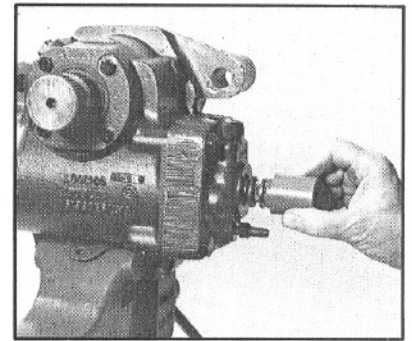
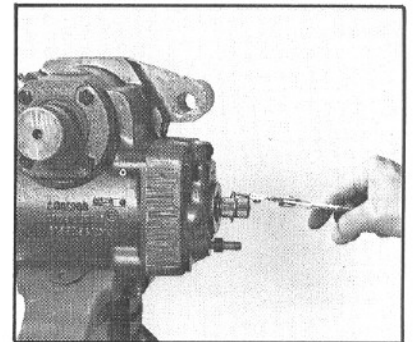

Figure 146
Figure 147
44. Apply clean grease to the input shaft seal assembly (7 and 8) and to the input shaft. Install the new two-piece input shaft seal (7 and 8), flat side out, and the steel backup washer (6), using seal driving tool J26653 (FIG. 146). Install the retaining ring (5) (FIG. 147).